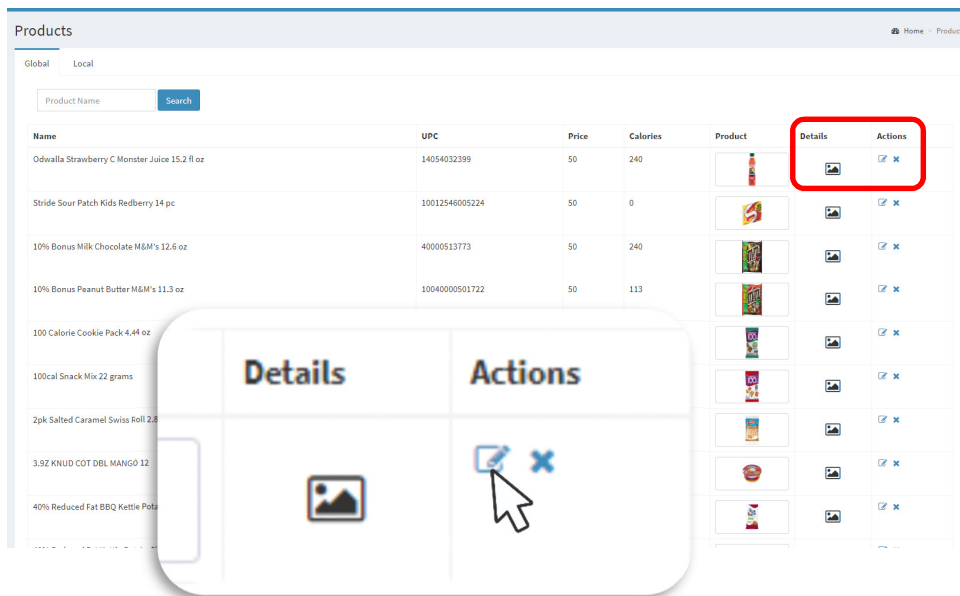

Figure 61
- From the Global Products screen click the **edit icon** under the Actions column (See Figure 61).